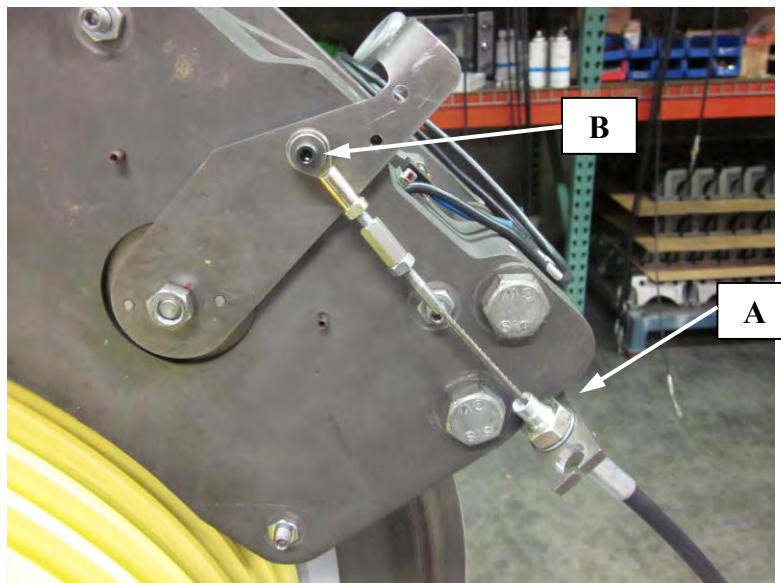

Figure 9
- For machines equipped with the Hollister-Whitney manual brake release cable, begin by loosening and removing bolt "A" behind bracket, then loosen and remove socket head screw "B". Refer to Figure 9.